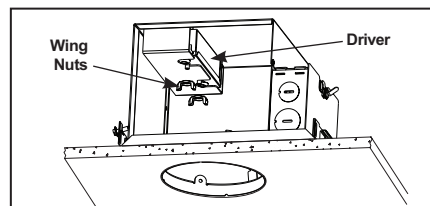

Figure 11
Step 4. Loosen wing nuts and slide driver out of the mounting bracket. Remove from housing. (Fig. 11)
Step 3. Remove the wing nuts holding the driver to the housing. Bring driver (with leads connected) through ceiling opening. (Fig. 11)